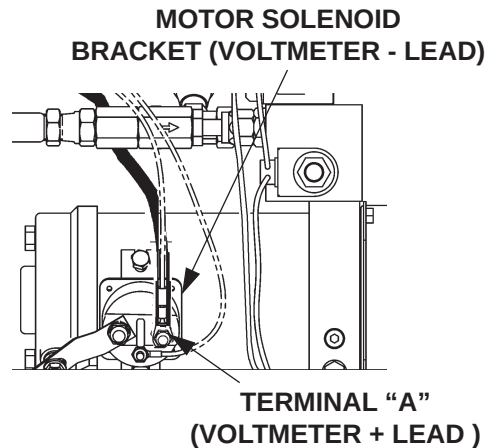

FIG. 44-1
1. Connect voltmeter between Motor Solenoid Terminal "A" and Bracket (**FIG. 44-1**) to verify that battery power is getting to "A". Recharge the battery if voltmeter indicates less than 12.6 Volts DC.